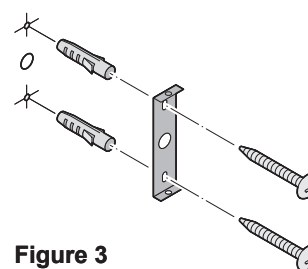

Figure 3
2. Fasten wall bracket with suitable screws and dowels (not included) (Figure 3).